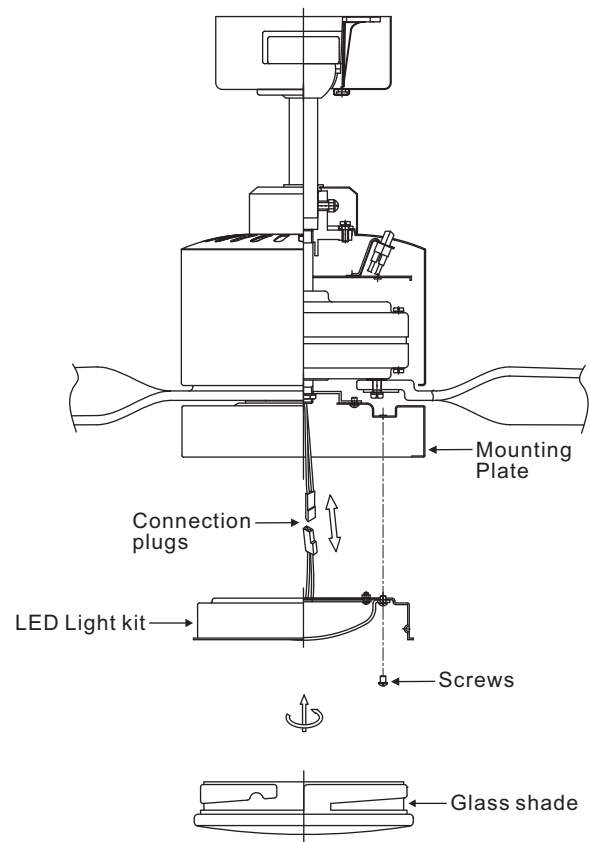

Figure 15
Step 1. Remove the 1 of 3 screws from the posts of the mounting plate and keep it for future use. Loosen the other 2 screws. (Do not remove) (Fig. 15)
Step 3. Place the key holes in the LED light kit over the two screws previously loosened from the mounting plate. Turn the LED light kit until the LED light kit locks in place at the narrow section of the key holes. (Fig. 15)
Step 4. Securely tighten the two light kit mounting screws previously loosened and the one previously removed. (Fig. 15)
Step 5. Raise glass shade up against the LED light kit, and secure it to fan by turning glass shade clockwise until snug. DO NOT OVERTIGHTEN. (Fig. 15)